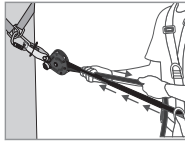
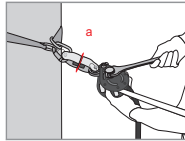

Fig 3
Fig 4
Once the lifeline is installed, a pre-adjustment of the tension must be made by pulling manually on the rope (knot end side —Fig. 3). Automatically, the cam (8) and the cam lever (4) must come into contact with the rope. Close the cam lever (4), then, using an appropriate wrench, apply tension on the tension adjustment bolt (1) until the tension indicator washer (a) placed on the tension indicator (2) turns freely (Fig. 4). Once this washer moves freely, STOP TIGHTENING! This corresponds to a pre-tensioning on the line of approximately 1 kN. During use, regularly check this tension (rotation of the tension indicator washer) and adjust if necessary, as explained above.